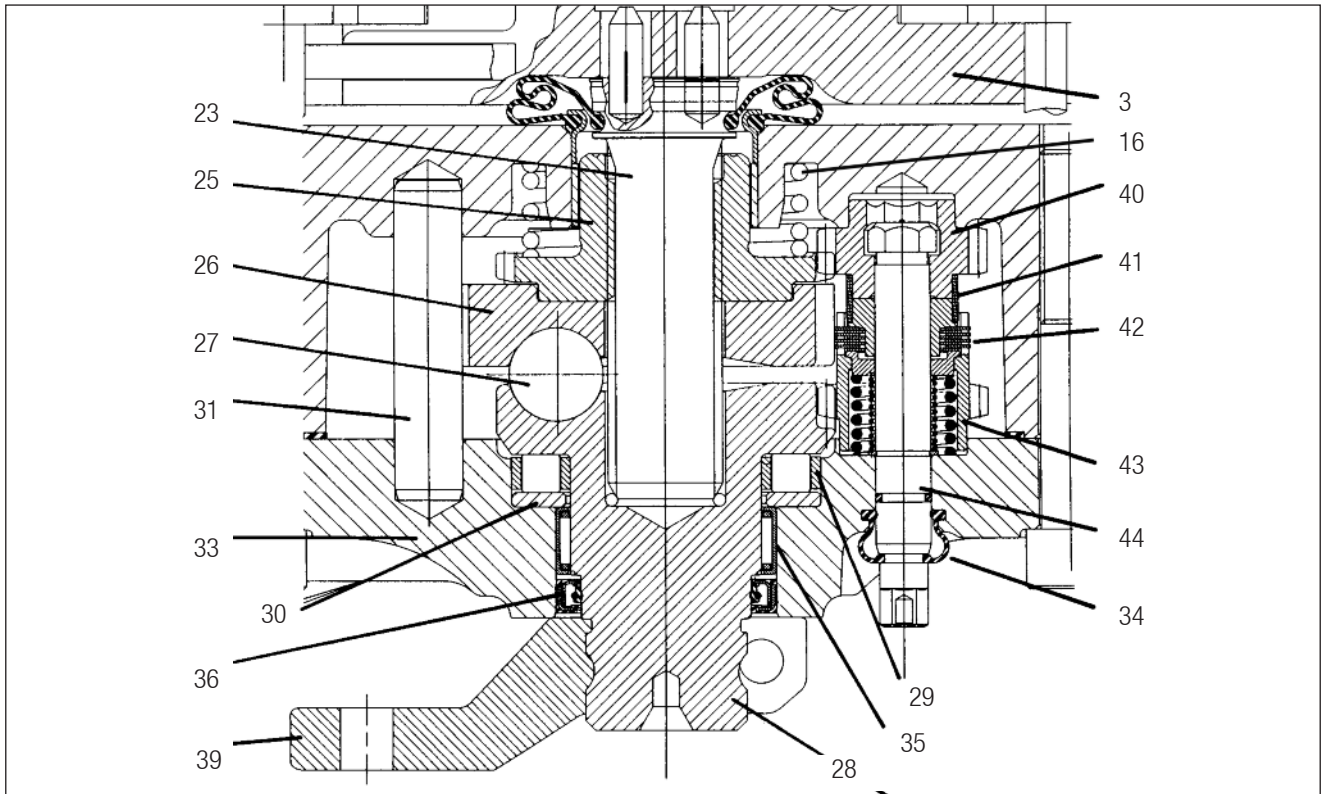

Fig. 1.3a
The actuating mechanism is mechanically driven and incorporates an operating shaft (28), three hardened balls (27), ramp (26) and tappet arrangement (23) together with a fully integrated, automatic, load insensitive adjusting mechanism (22). The adjuster mechanism (Figs 1.3a & 1.3b) is situated to the side of the operating shaft/ramp assembly and consists of a multi plate friction clutch (42) and wrap spring clutch (41) arranged in series. The multi plate clutch (42) is loaded by a spring and is designed to slip at a controlled torque, in either direction, the wrap spring clutch (41) however will lock in one direction whilst free to slip in the opposite direction. When the footbrake is applied the air chamber applies a load to the actuating lever (39) thus rotating the operating shaft (28).